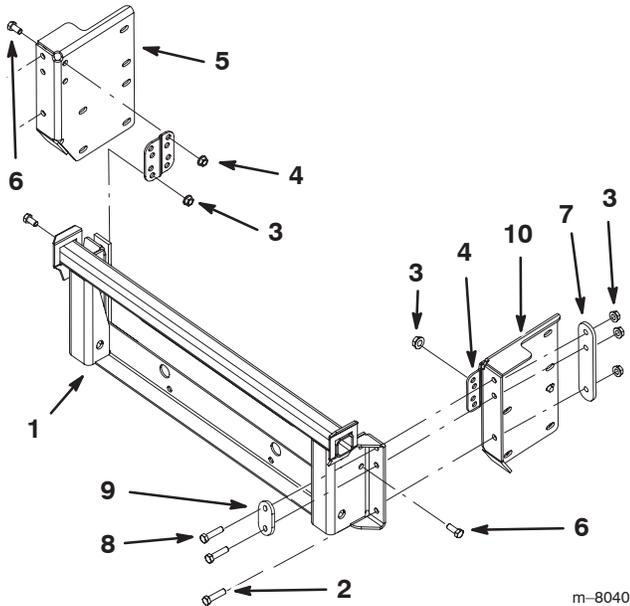

Figure 1
Important When installing the bagger bracket for an air cooled machine, use only 2 long frame spacers; 1 per each side (Fig. 1).
1. Install the side brackets to the bagger mounting bracket (Fig. 1).
2. In the top two holes, install 2 bolts (3/8 x 1-1/2 inch), 2 flange nuts (3/8 inch) one long frame spacer, and one short frame spacer (Fig. 1).
Note: Make sure the long frame spacers are installed as shown in figure 1.
3. In the bottom hole, install a bolt (3/8 x 1-1/4 inch) and a flange nut (3/8 inch) (Fig. 1).
4. Install a bracket stiffener to the side bracket and bagger mounting bracket. Use 4 bolts (3/8 x 3/4 inch) and 4 flange nuts (3/8 inch) (Fig. 1).
5. Repeat the previous steps for the opposite side (Fig. 1).
3. Tighten the bracket stiffeners to both the side plates and the bagger mounting bracket (Figures 1 or 4).